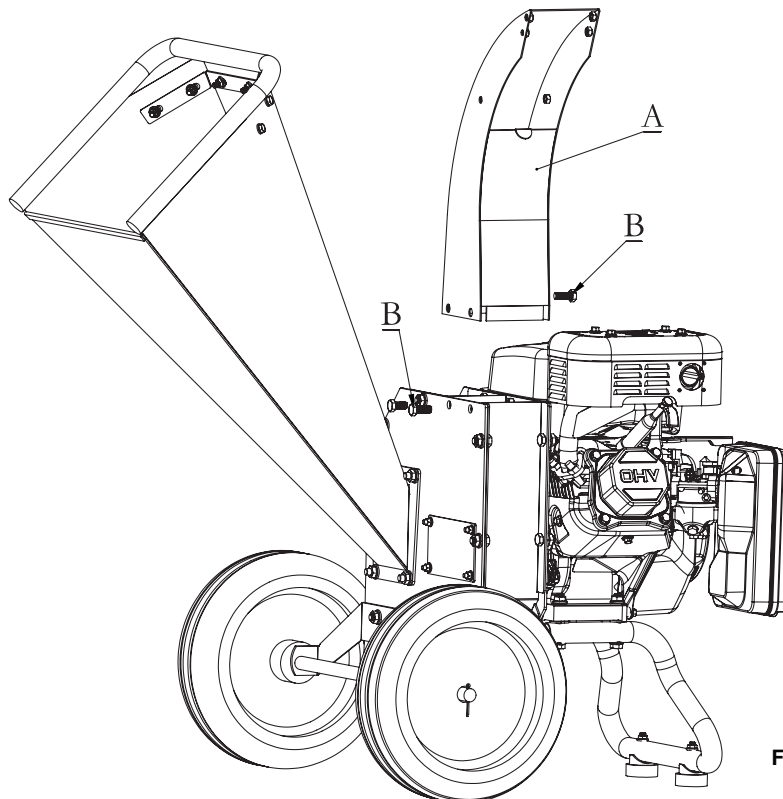

Figure 4
Fixed the discharge chute (see Figure 4)
1. Place the discharge chute (A) on the housing and align the fixed hole.
Fix the discharge chute with three M8*16 bolts (B) on the housing. (see Figure 4)
2. Place the discharge chute (A) on the housing and align the fixed hole.